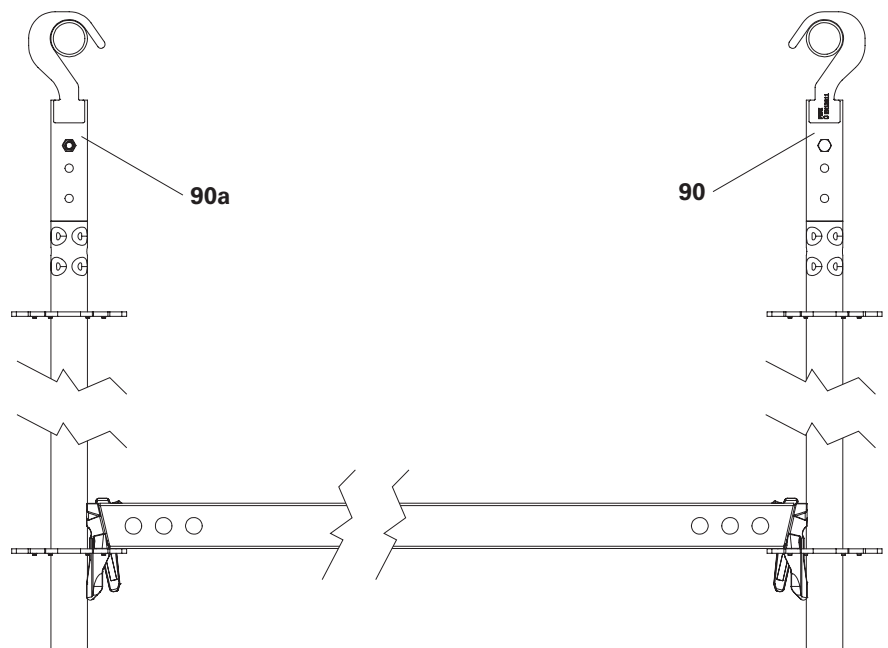

Fig. A11.02
2. Assembly of Adapter UEH (90) as described under Adapter Suspended Scaffold UEH.
3. Install the opposite Adapter UEH (90a) turned 180°. Hook openings must not point in the same direction. (see Fig. A11.02)